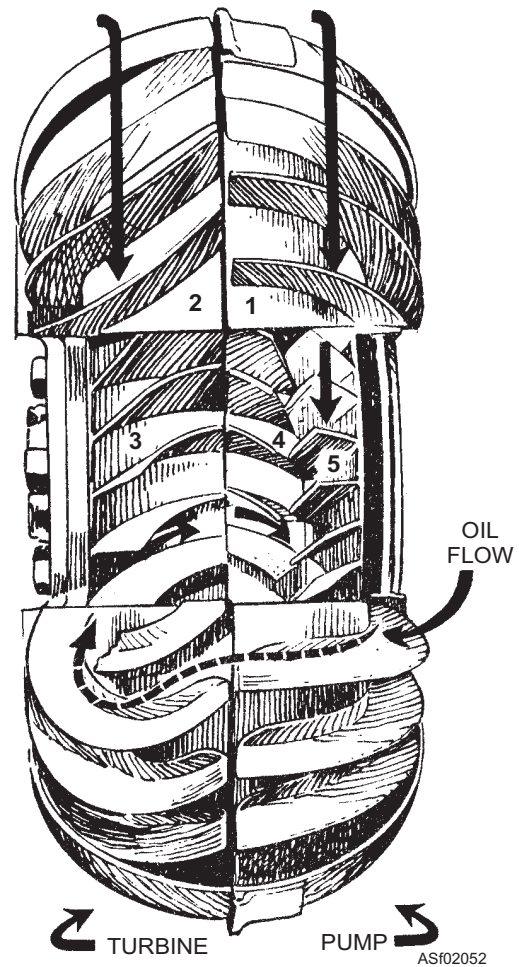

Figure 2-52.—Torque converter, multi-element.
The torque converter provides varying drive ratios between the pump and turbine, thereby providing varying amounts of torque increase. This is accomplished by the use of curved vanes in the pump and turbine and by the use of one or more extra members (elements). These additional members are placed between the driving and driven members. The vane curvature can be seen in the torque converter cutaway shown in figure 2-52. As in the fluid coupling,
Normally, a torque converter has at least three members. However, some have more than three members. Refer again to figure 2-52. This converter has five members, and each member is numbered in sequence as oil passes through it; thus, (1) is the primary pump, (2) is the turbine, (3) is the secondary stator, (4) is the primary stator, and (5) is the secondary pump. The five members are mounted on shafts and hubs in such a way that each one has some degree of independent rotation. The stator elements are mounted through overrunning clutches to a stationary hub shaft, while the secondary pump is mounted through an overrunning clutch to the pump shaft. If there is a secondary turbine element, it will be mounted on the turbine shaft.
When the vehicle is first started or is under heavy load (fig. 2-52), the primary pump (1) is turning at a relatively high speed while the turbine (2) is turning slowly. As shown by the oil flow arrow, the oil is passing from the primary pump (1) to and through the turbine (2). As the oil leaves the turbine (2), it flows into the stators (3 and 4). Notice that these stators change the direction of the oil flow to aid the primary pump (1). However, the secondary pump (5) is between the primary stator (4) and the primary pump (1). Note how the vanes of the secondary pump (5) oppose the oil flow from the stators to the primary pump (1).